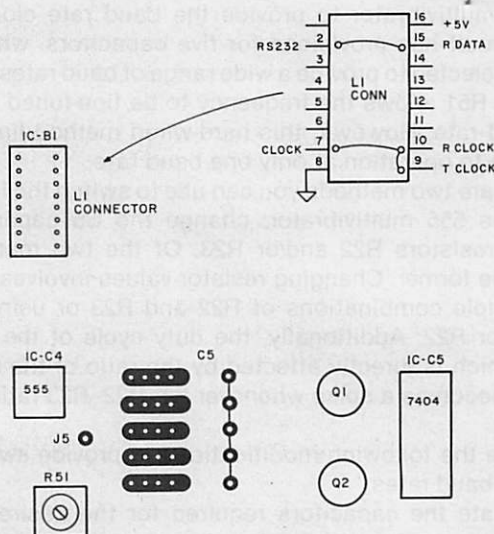

Fig. 6. ACIA clock component location.
- Remove the jumper between the J5 donut and the capacitor on the board (see Fig. 6).
- To check and adjust the frequency, connect a frequency counter to L1 connector pin 7 (see Fig. 6), then reset the computer.